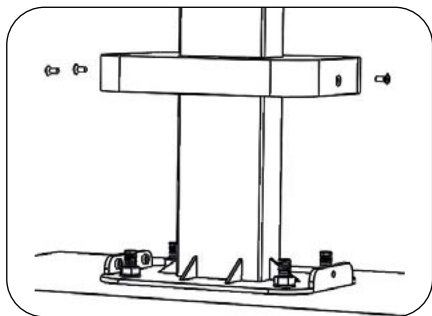

Figure 22
4. Unscrew 3 M3x8 screws on the base of the post (Figure 22), lift the cover and align it with the installation holes before fixing the bottom bolts.